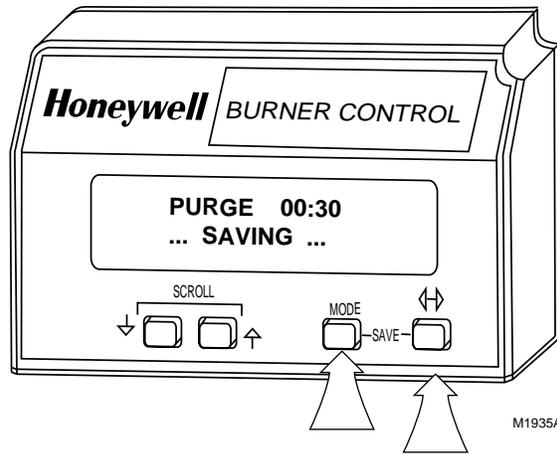

Fig. 12. SAVE function.
- SAVE function, see Fig. 12. The SAVE function enables users to identify the selectable message they want to view upon power restoration. The second line selectable message are restored to the most recently saved selection when power returns. The SAVE function is performed by pressing and holding the MODE key and then pressing the CHANGE-LEVEL key (↔). The second line of the display briefly notes "...SAVING..." to confirm the keys were pressed.